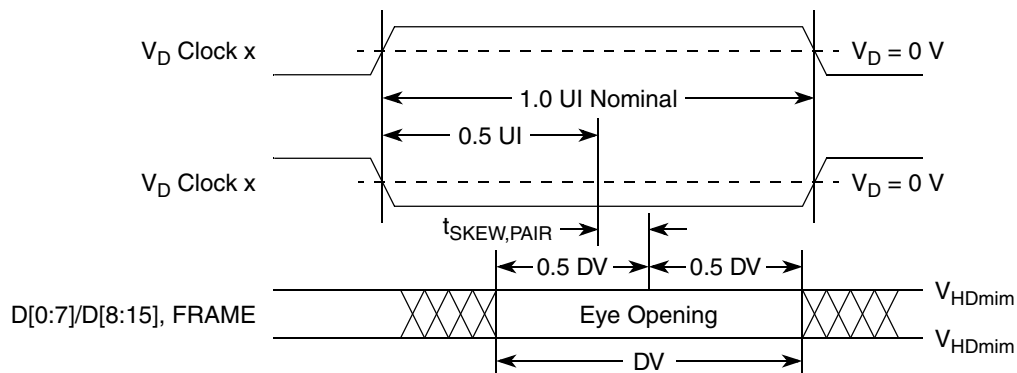
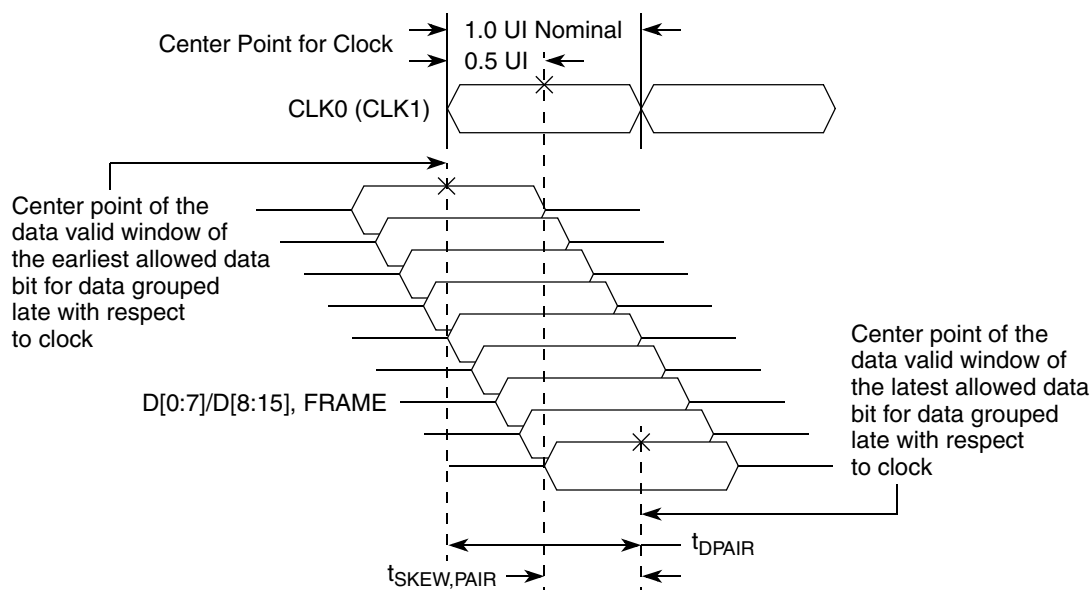

Figure 41. Data to Clock Skew
Figure 42. Static Skew Diagram
5. See Figure 42.
3. See Figure 42.
4. See Figure 41 and Figure 42.
Figure 41 shows the definitions of the data to clock static skew parameter  $t_{\text{SKEW,PAIR}}$  and the data valid window parameter DV. The data and frame bits are those that are associated with the clock. The figure applies for all zero-crossings of the clock. All of the signals are differential signals.  $V_D$  represents  $V_{OD}$  for the transmitter and  $V_{ID}$  for the receiver. The center of the eye is defined as the midpoint of the region in which the magnitude of the signal voltage is greater than or equal to the minimum DV voltage.
Figure 42 shows the definition of the data to data static skew parameter  $t_{\text{DPAIR}}$  and how the skew parameters are applied.